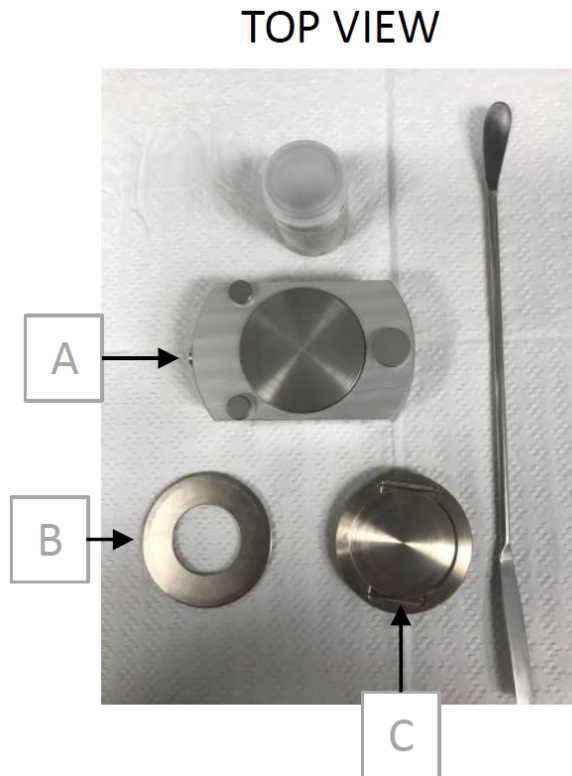

Figure 2. Backloading sample holder (view from the top). A) Sample preparation table, B) Top ring, C) Base which the top ring clips into.
Most common method is backloading. The sample holder is in two parts, the top ring (B) and the base (C) which the top ring clips into and is loaded using the sample table (A) which is the small device with a center platform and three round buttons around it (Figure 2).